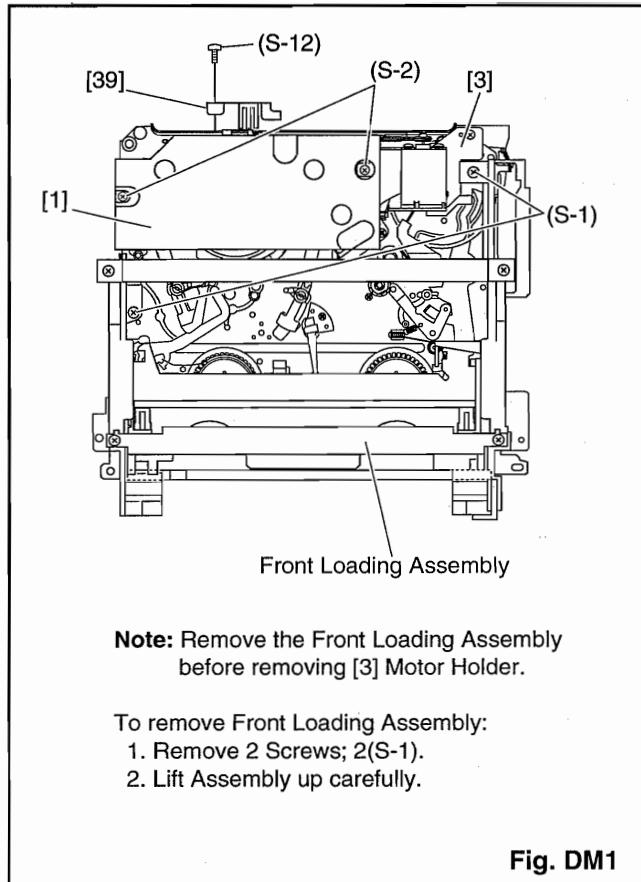

Fig. DM1
2. Remove Front Loading Assembly from the main mechanism of the deck assembly. (See Fig. DM1.)
3. First remove Step/Loc. No. [39], and start to remove other parts. (See Fig. DM1.)
Before following the procedures described below, be sure to remove Front Loading Assembly from the main mechanism of the deck assembly. (See Fig. DM1.) When reassembling, start with the unit in Cassette-in mode and follow the steps in reverse order.